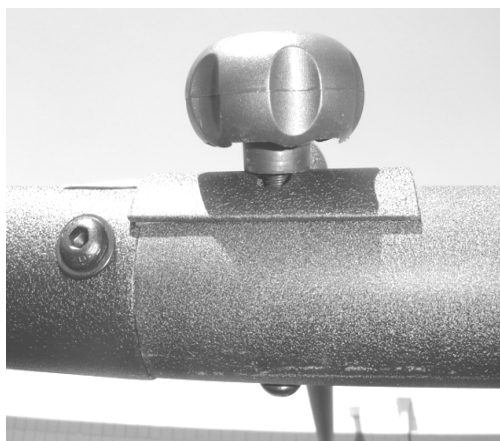

Figure 7
13. Place the front crossbar on the upright. Insert the 1/4" x 3 3/8" Knob Bolt through the bottom of upright and through the cross bar. Tighten the bolt with the plastic crossbar knob and allen key supplied. (Figure 7) Repeat on the opposite side. It may be necessary for an assistant to put pressure on the uprights to get them in the proper location for the cross bars to attach. (Figure 8)